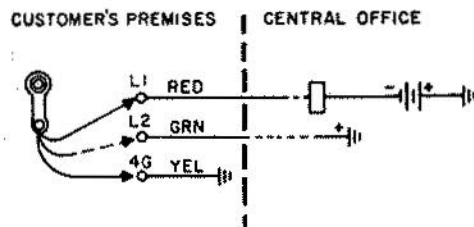

Figure 7. Connection for Line Polarity Test.
- (b) With the mode switch in the talk position, connect one test clip to a known ground as shown in Figure 7.
- (b) With the mode switch in the talk position, connect one clip to a known ground as shown in Figure 7.